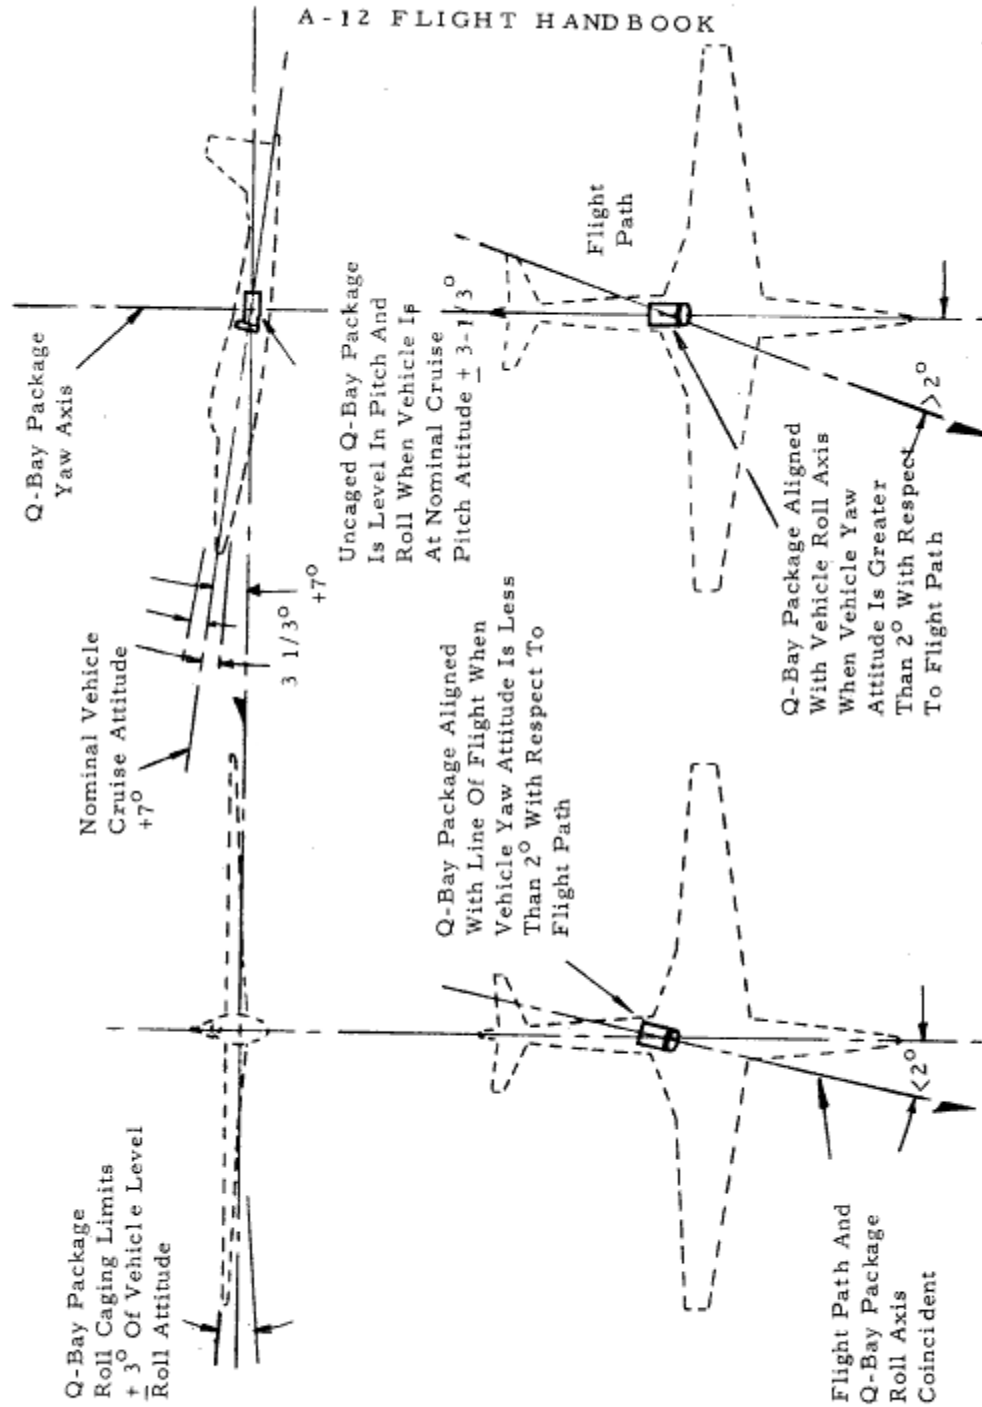

Figure 1-8. Vehicle And Type I Attitude Relationships, Uncaged Condition
- 1-16. The package will uncage in the operate mode only when the platform is coarse level -- within  $\pm 2^{\circ}$  of true vertical. The vehicle must be within  $\pm 2^{\circ}$  in pitch and roll of its nominal cruise attitude as shown in Figure 1-8.